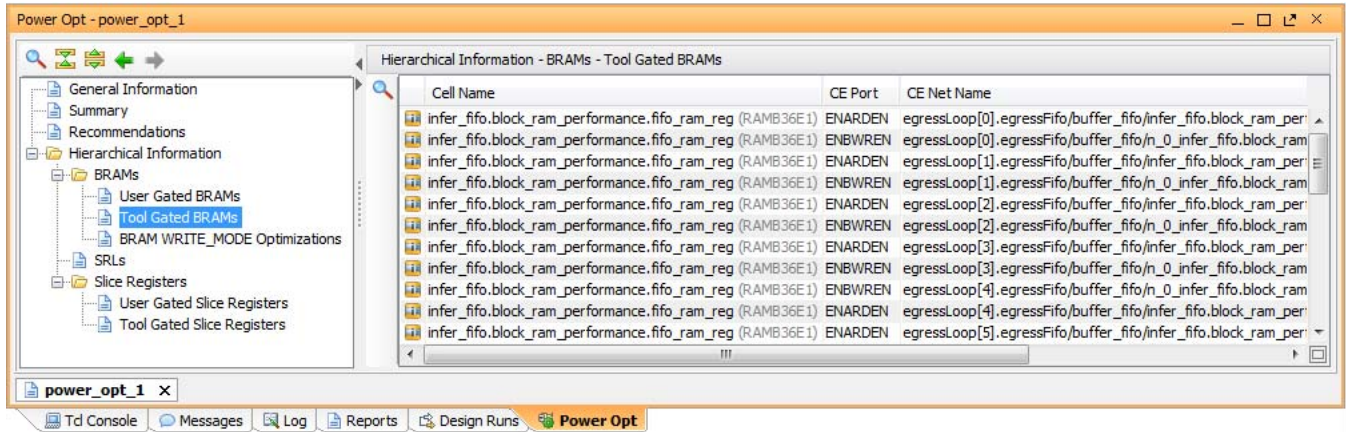

Figure 4-13: Power Optimization Report - Hierarchical Information
- **Hierarchical Information:** Details of the BRAMs, SRLs, and Slice Registers for which Vivado has performed power optimization. The view in Figure 4-13 contains a list of the BRAM cells that were optimized during implementation (**Tool Gated BRAMs**).